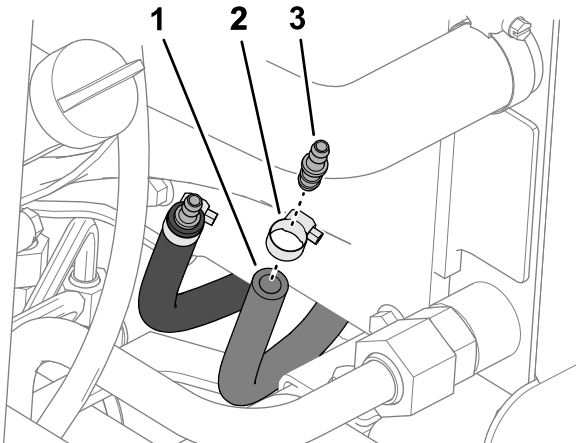

Figure 13
1. Assemble a barb hose connector into each of the fuel-cooler hoses (Figure 13).
2. Secure the hose connector to each of the hoses with the worm-type hose clamps (Figure 13).